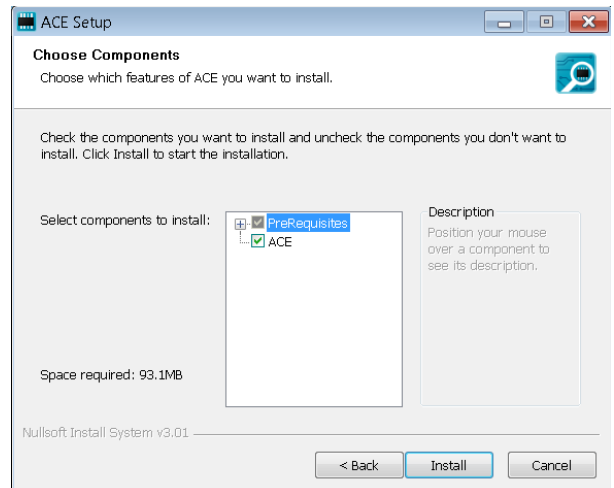

Figure 6. Choose Components
7. Select the **PreRequisites** checkbox to include the installation of the **SDP-H1** driver. Click **Install** (see Figure 6).